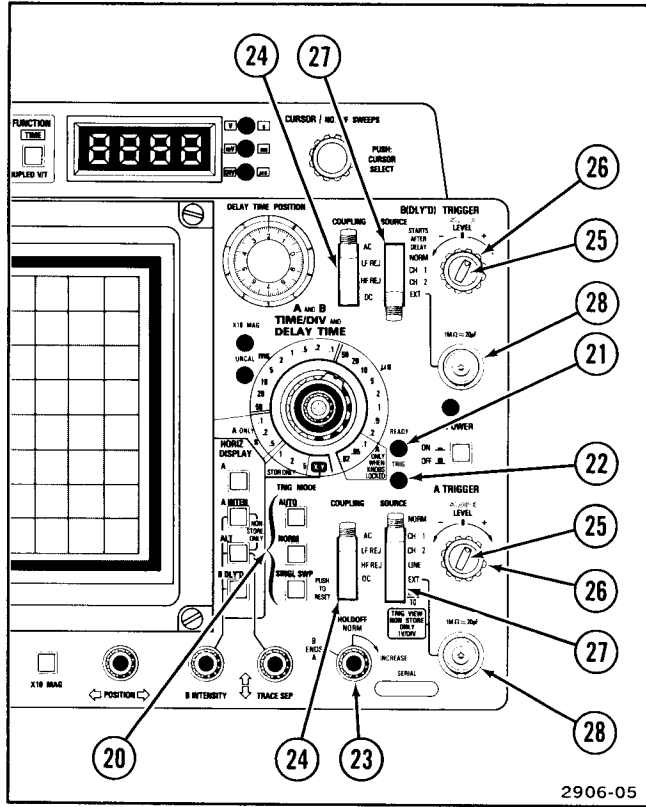

Figure 5. Trigger controls, connectors, and indicators.
Refer to Figure 5 for location of items 20 through 28.
- ⑳ **TRIG MODE Switches**—Three push-button switches that determine the mode of trigger operation for the instrument.